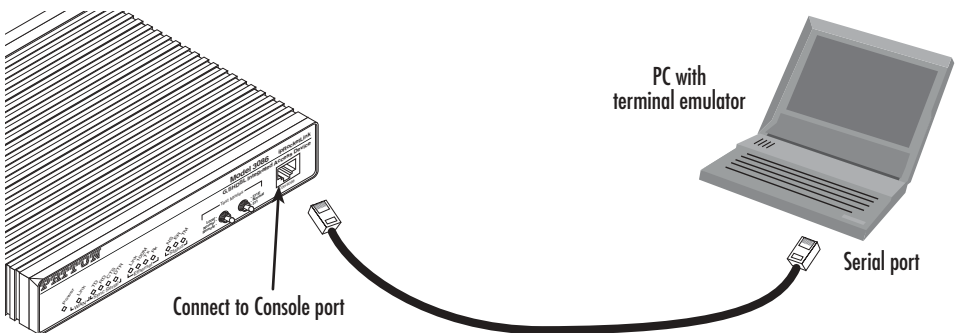

Figure 1. Connecting ipRocketLink to the PC's serial port
1. Using the included combination RS232/Ethernet cable and DB9-RJ45 adapter, connect a PC's serial port to the ipRocketLink's *Console* port (see **figure 1**).